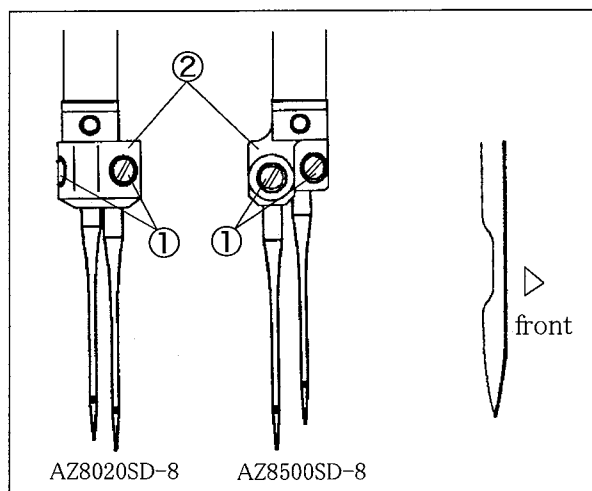
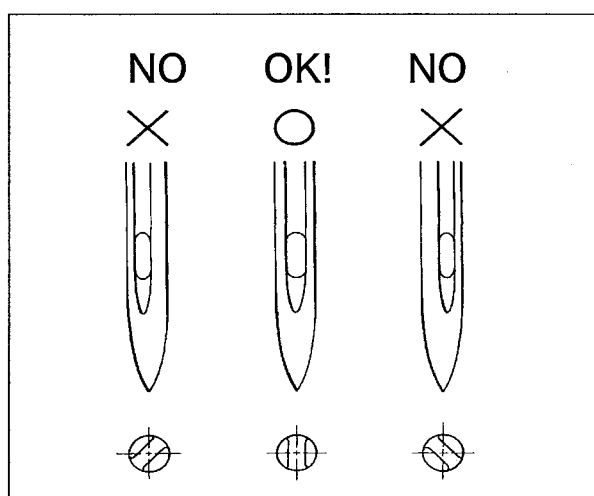

Fig. 5-1
Fig. 5-2
- (1) Loosen the screw① with a minus screw driver. (Fig. 5-1)
- (2) Remove the old needle with a pair of tweezers.
- (3) Insert a new needle into the needle clamp ② as far as it goes with facing its scarf to the right back. (Fig. 5-2 and 5-3)
- (4) Tighten the screw① with the minus screw driver.